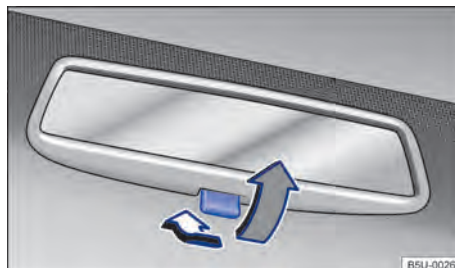

Fig. 68 On the windscreen: manual anti-dazzle interior mirror.
- Night position: pull the lever → Fig. 68 (grey arrow) to avoid glare from the headlights of vehicles travelling behind.